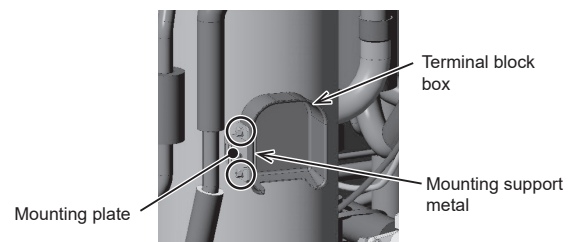

Figure 6
- (6) Remove the cover from the terminal block box, and then remove the mounting plate and the mounting support metal. (2 screws, Figure 6) (applicable to EP only)